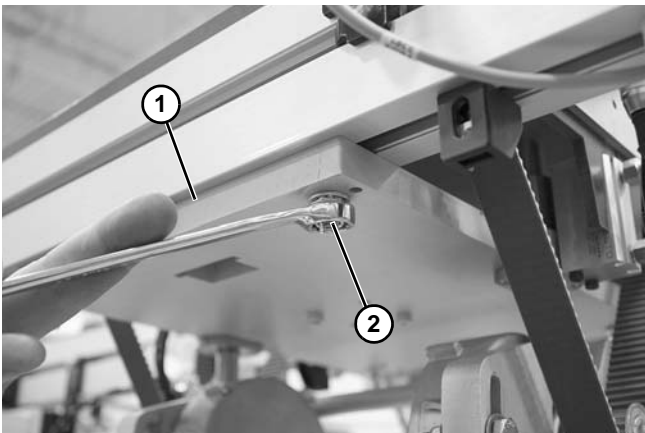

**Figure 28**
- One bottom (**Figure 28, item 1**) and two side flags (**Figure 28, item 2**) (when bumpers are not installed) can be used for sensing.
- Stop only has to be released long enough to clear pallet skirt that was stopped. Notches (**Figure 28, item 3**) in skirt allow stop to be reset before pallet clears stop area.